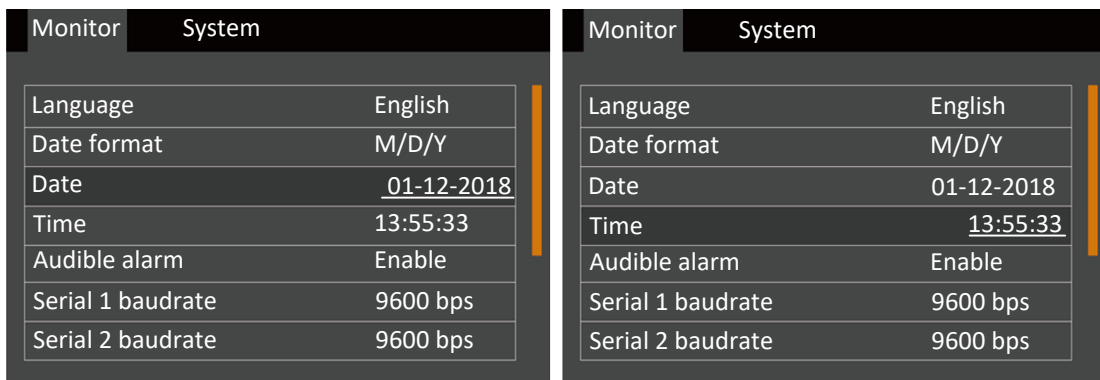

Figure 5-19 Changing Date and Time
4. Press the **Enter** key, move the cursor and press the **▲** or **▼** key to change the date and time as required. See Figure 5-19.